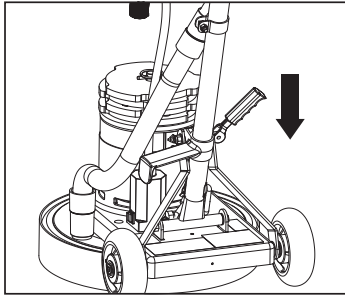

Figure 1
2. Lock the handle. To lock the handle, push the locking lever down. See figure 1.